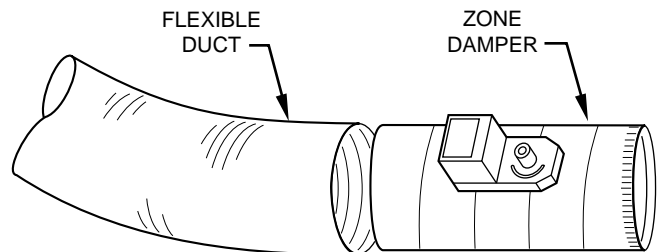

Fig 5—Round Flexible Duct Work
1. Slip 1 end of flexible duct work over 1 end of zone damper. (See Fig. 5.)